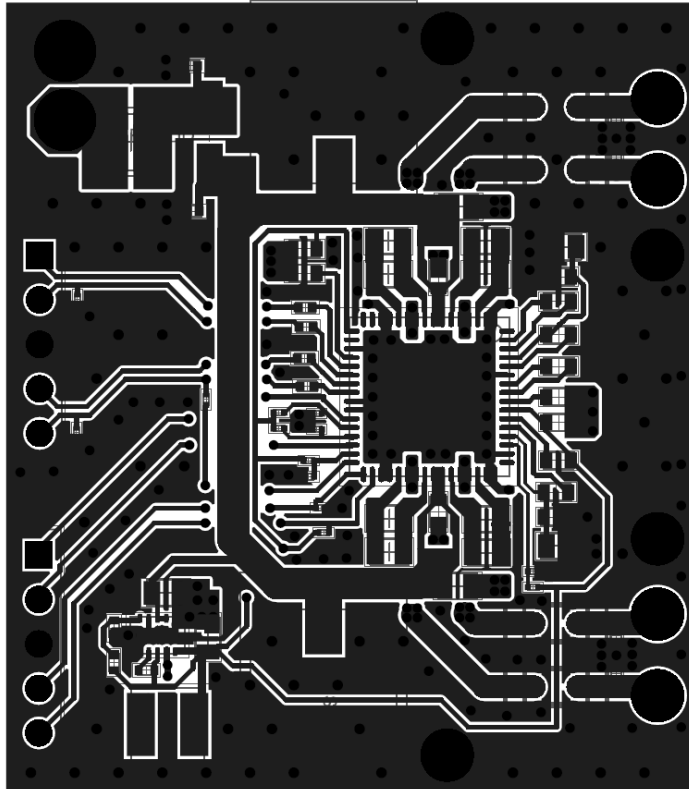
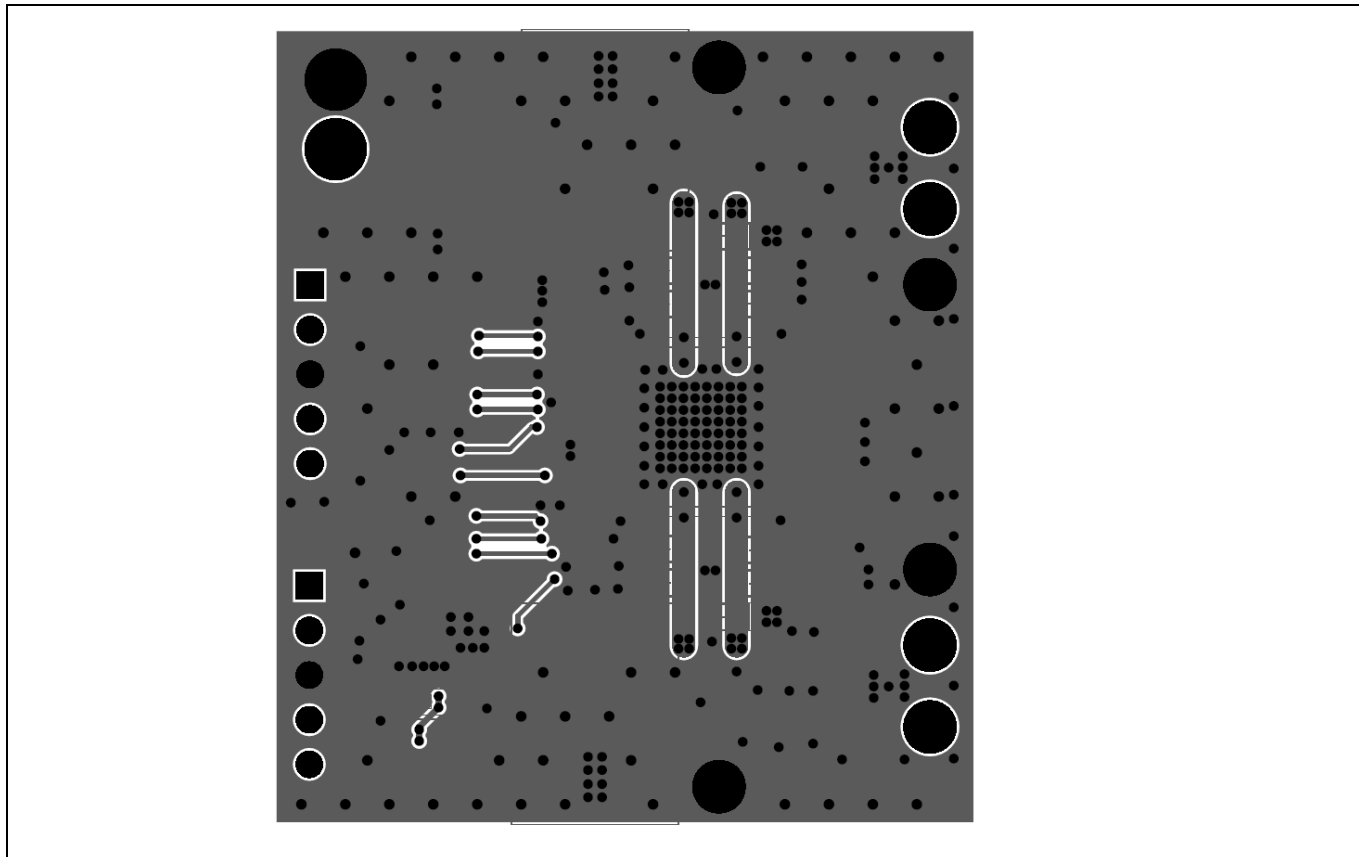

Figure 5 **Top side of the PCB layout**
Figure 6 Bottom side of the PCB layout
- Figure 5 and Figure 6 show the top and bottom PCB design respectively. It can be seen that all the component placement and main routing is done on the top layer.